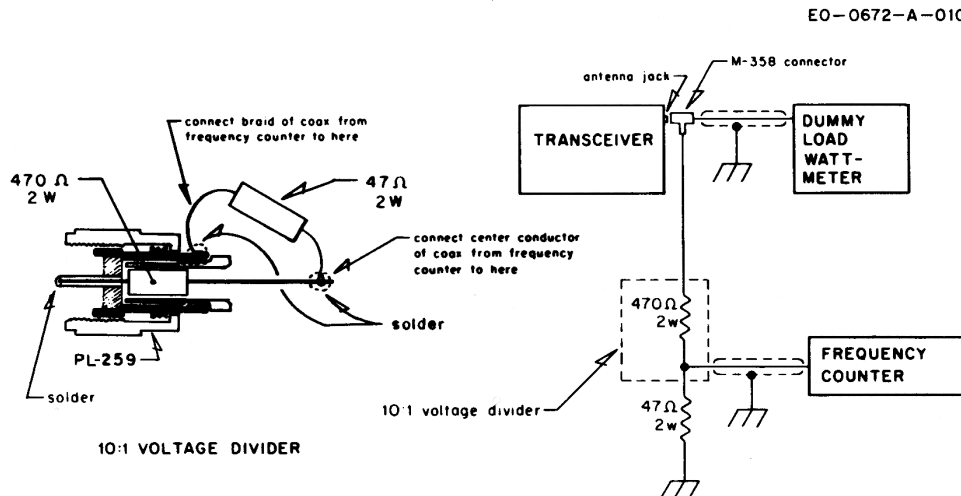

Figure 3-2. Connection of Frequency Counter and Dummy Load
NOTE: See Figure 3-2 for connection of frequency counter and dummy load.
2. Connect the dummy load and frequency counter to the antenna jack as shown in Figure 3-2.